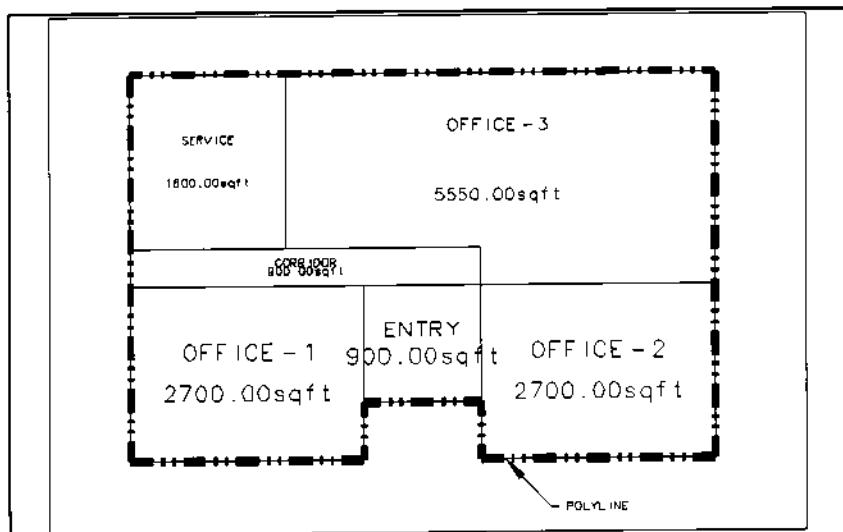

Figure 8.
- > From point (ENDpoint): [pick any exterior corner and proceed picking points around the building as shown in Figure 8]
The routine draws a pline around the exterior walls as shown in Figure 8.